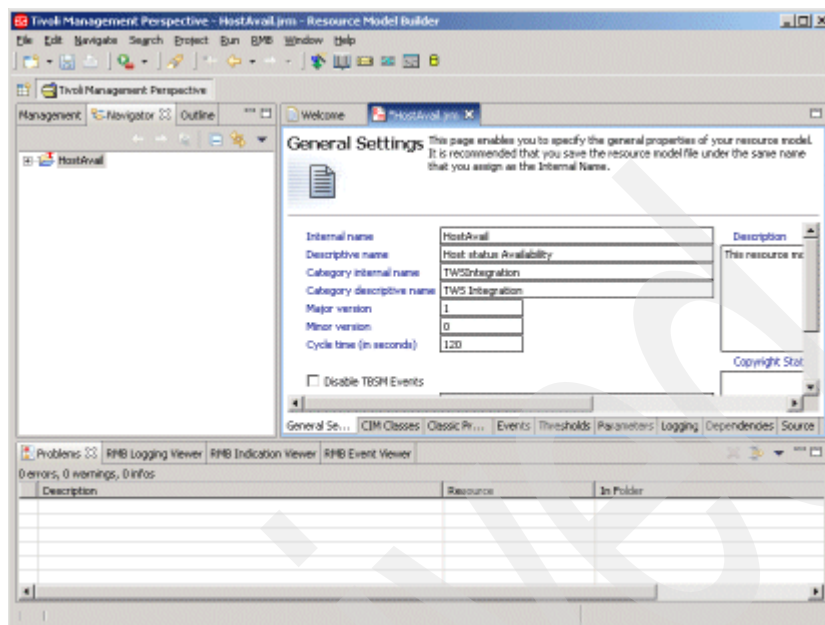

Figure 9-51 Configuring category names
24. Enter Host status Availability in the Descriptive name text field, TWSIntegration in the Category internal name text field, and TWS Integration in the Category descriptive name text field, as shown in Figure 9-51 on page 472.